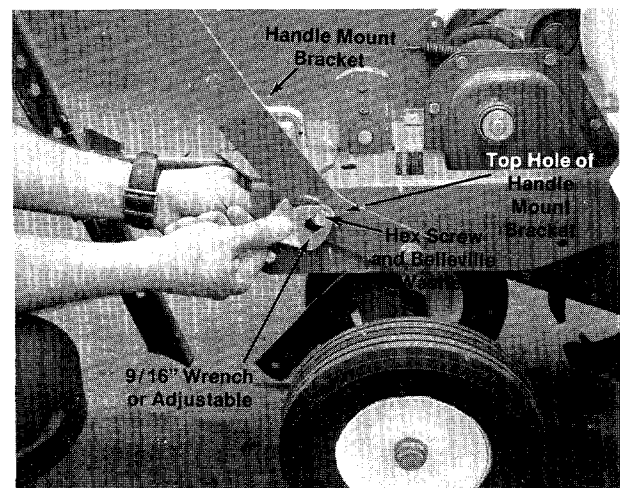

FIGURE 7.
This tiller is a variable speed unit. Any movement in the handle (after assembly) may change your speed. The handle mount brackets **must be** as tight as possible. See figure 7.
- Secure with lockwasher (Q) and hex nut (R) on the inside of chassis. See figure 7.